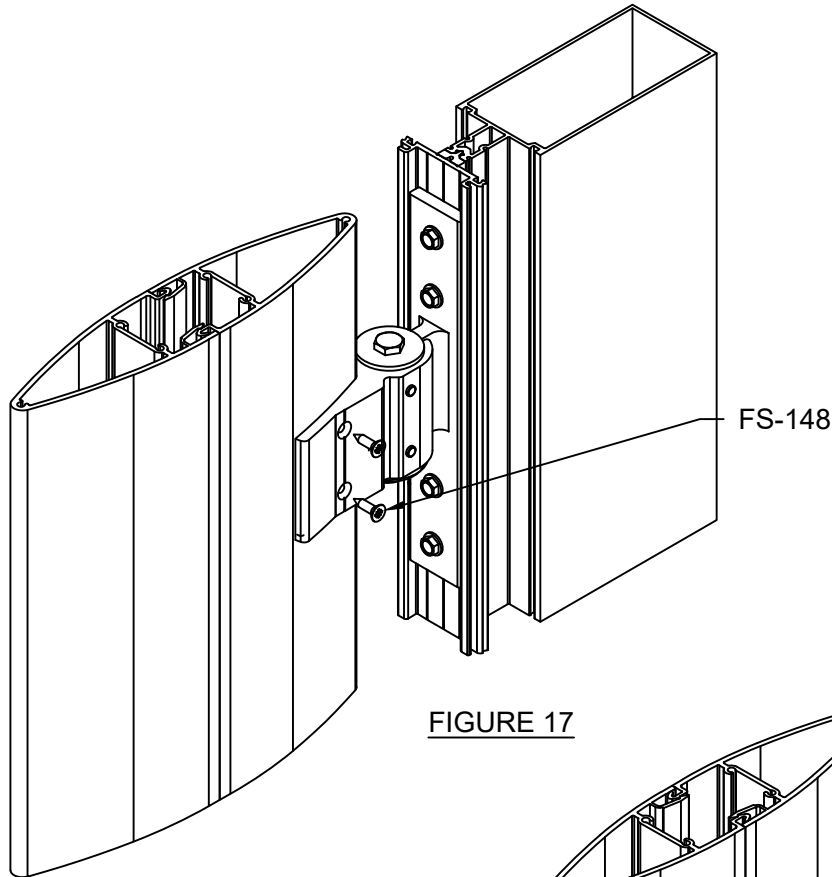

FIGURE 17
- 9) Blades are attached to the SS-208-01 mounting arm using four (4) FS-148 (#10 x 3/4" UCPFH St. Steel) fasteners. SEE FIGURE 17
- 8) Blades are attached to the SS-208 mounting arm using four (4) FS-148 (#10 x 3/4" UCPFH St. Steel) fasteners. Match drill sunshade blade using #25 (.159"Ø) drill (SEE FIGURE 17)